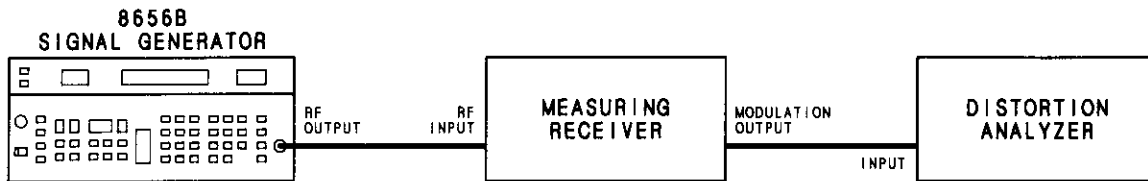

Figure 5-16. AM% and ALC Loop AM Adjustments Setup
3. Connect the measuring receiver to the RF OUTPUT connector on the Signal Generator and connect the distortion analyzer as shown in Figure 5-16.